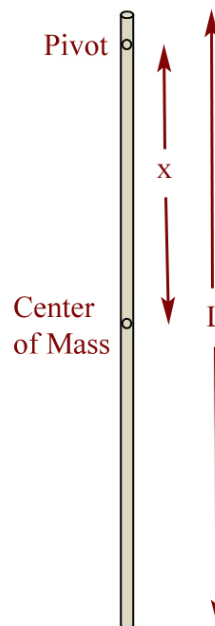

Figure 2: Rod
For the rod of length, L , the pivot point is the hole near the end (see Fig. 2), a distance " x " from the center of mass. Combining the rotational inertia of a thin rod about its center of mass ($I_{\text{rod}} = 1/12 ML^2$) with the Parallel Axis Theorem and Equation (1) yields